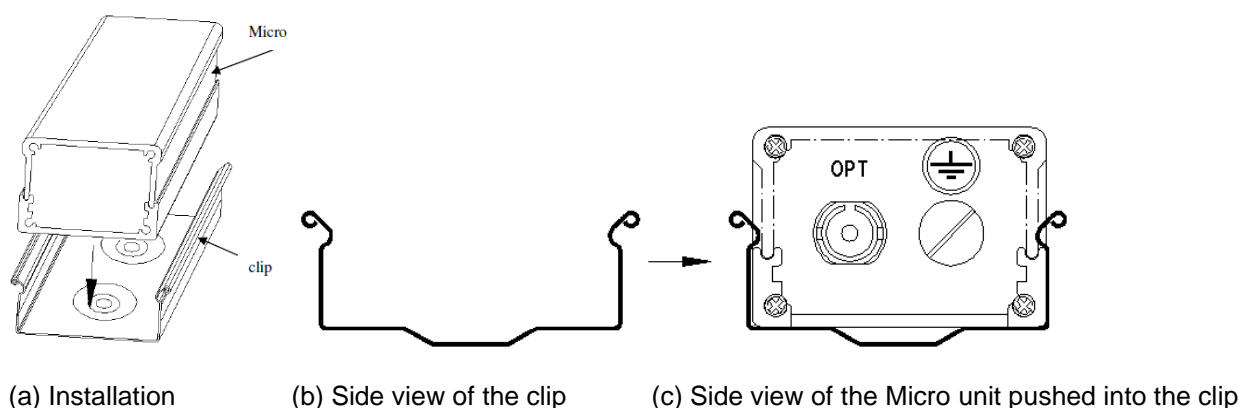

Fig. 3.3 Micro unit installation on the clip
- c) Push the Micro unit into the clip to secure it in position. For details, please follow Fig. 3.3.